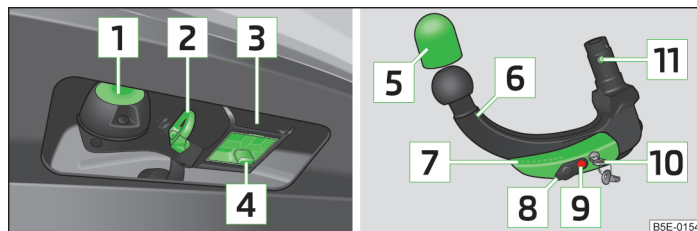

Fig. 152 Carrier of the towing device/ball rod
- Pull cap **4** » Fig. 152 on page 169 downwards.
- Place the cap **4** » Fig. 152 on page 169 onto the mounting recess.